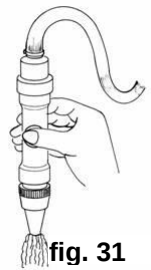

fig. 31
- Press and hold the Operation Key of the Garnishing pistol until Suction Hose is emptied. (fig. 31).